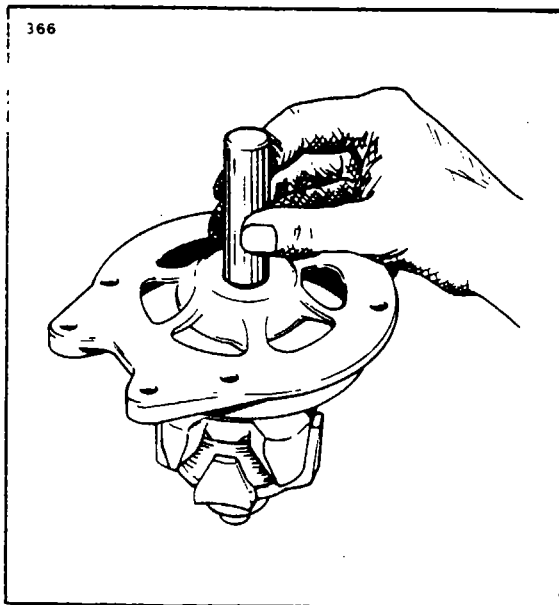

Figure 11-24. Installation of Bearing
a. Press the ball bearing into the drive end head using a flat block approximately two inch square so that the pressure is exerted on the outer race of the bearing. Install the retainer plate. With the snap ring and retainer cup in place on the rotor shaft, use a tool that fits over the shaft and against the inner bearing race, and press until the inner bearing race is against the snap ring retainer cup. (Refer to Figure 11-24.)